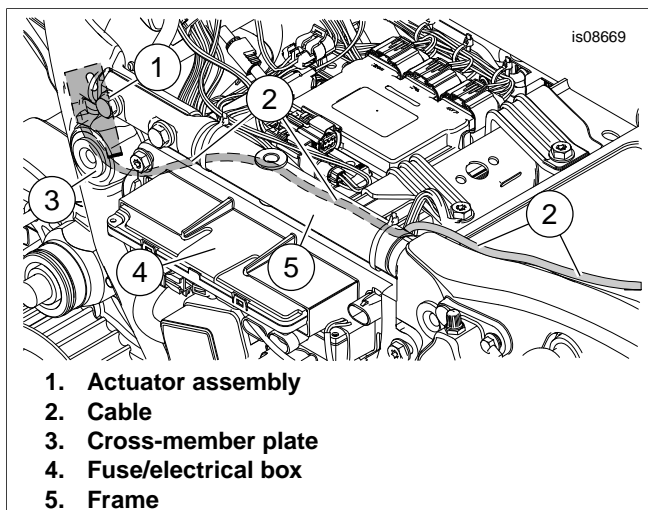

Figure 8. Cable Routing
10. See Figure 8. Route the cable (2) under cross-member. Continue routing cable (2) between fuse/electrical box (4) and frame (5) to the top of the rear fender and to the backrest bracket.